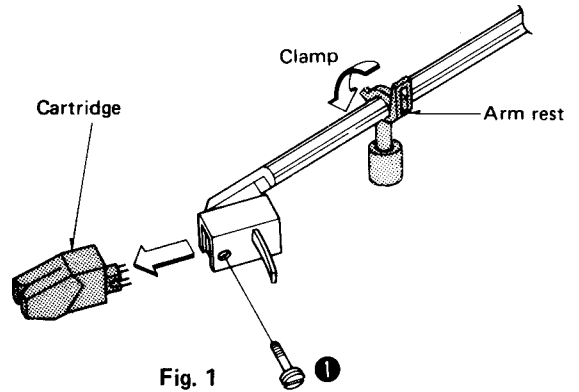

Fig. 1
2. Remove the cartridge setscrew (Fig. 1 : ①), and then pull out the cartridge in the direction of the arrow.